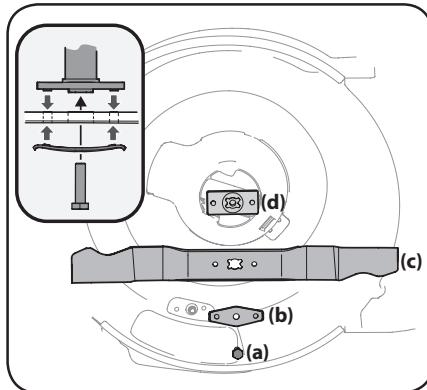

Figure 4-6
- Remove bolt (a) and blade bell support (b) which hold the blade and the blade adapter to the engine crankshaft. See Figure 4-6.
- Remove blade (c) and adapter (d) from the crankshaft. See Figure 4-6.